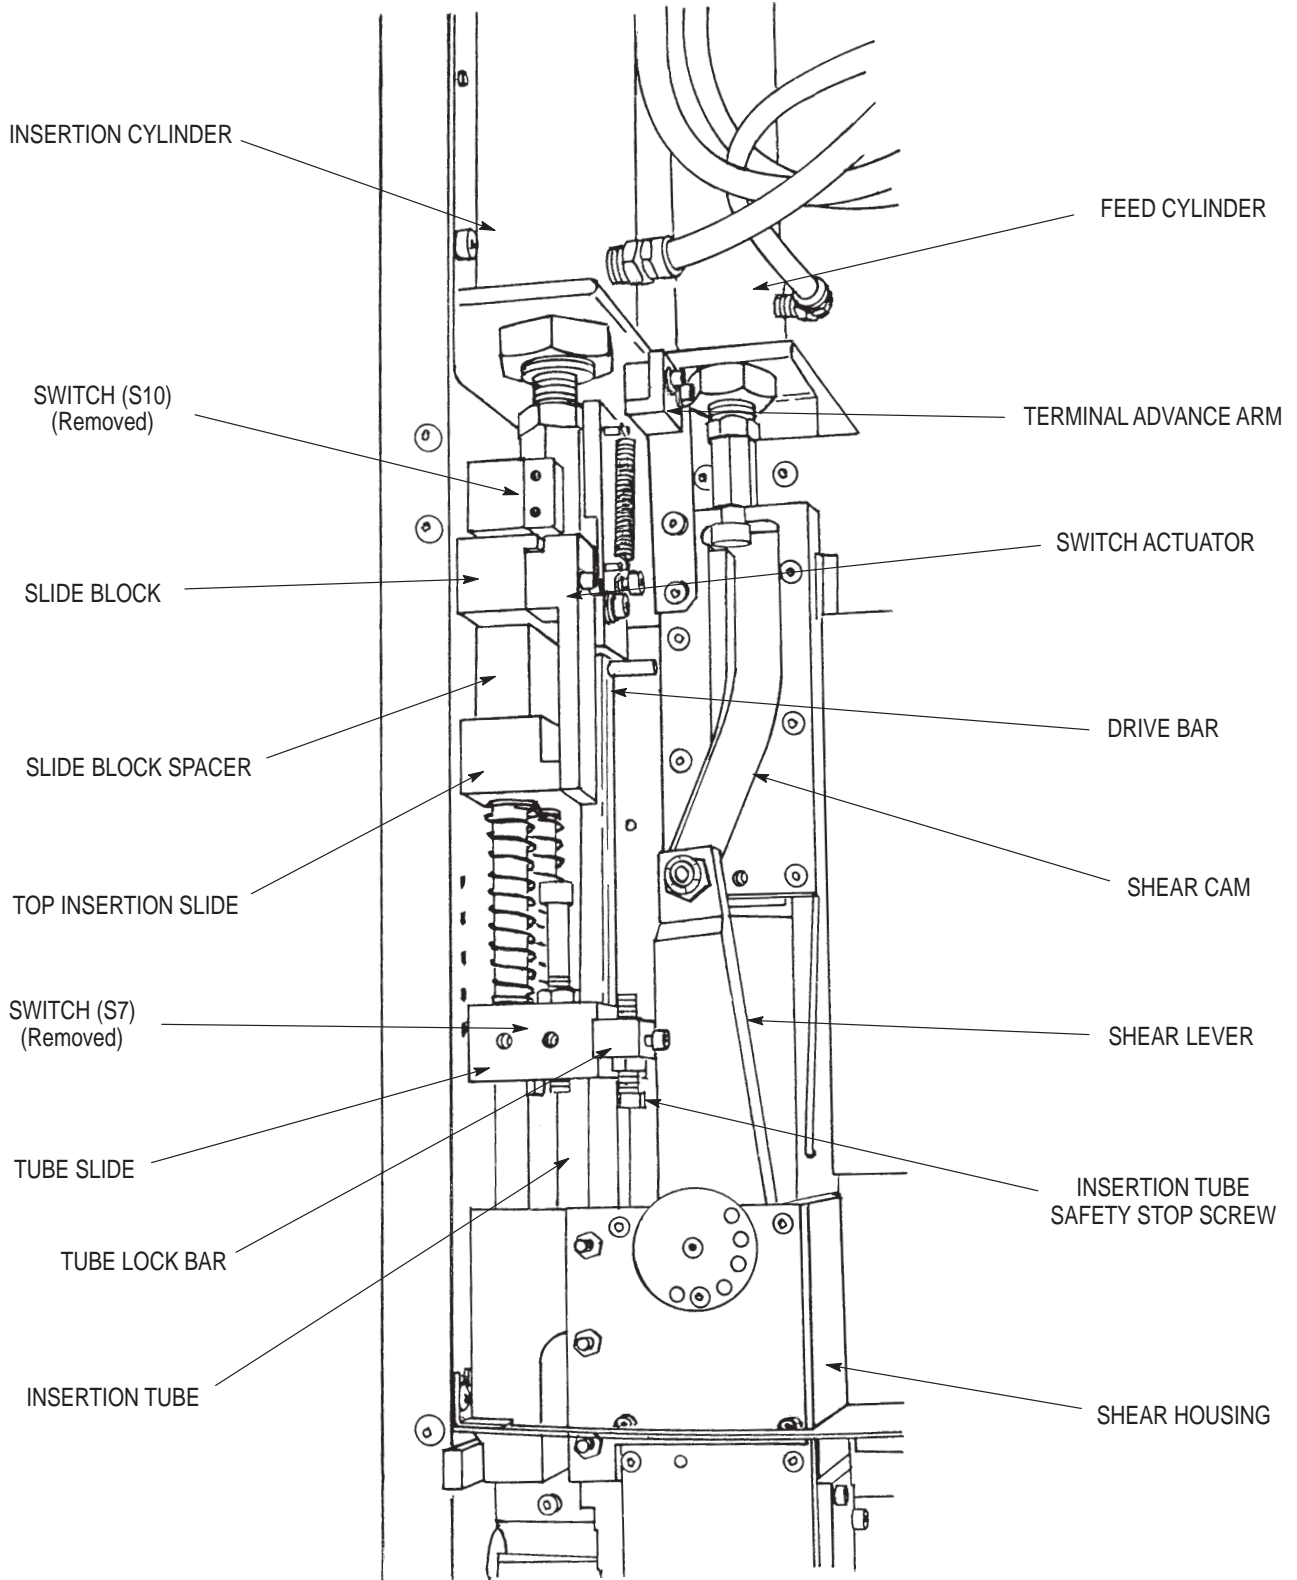

Figure 2-2. Typical Module Component Locations (left side)
## 2.2. Functional Description (Figure 2-2)
5. To check the insertion tube for proper operation, clear the insertion tube of any terminals. With bobbin in the fixture, actuate the insert cylinder. The insertion tube should extend far enough to slightly “pinch” the bobbin in the fixture. With the bobbin “pinched,” there should be approximately 0.762 mm [.030 in.] clearance between the insertion tube’s safety stop screw and the shear housing (see Figure 2-2). This is necessary to prevent tooling from hitting fixture when extended without a bobbin in place. If adjustment is necessary, refer to Section 6.